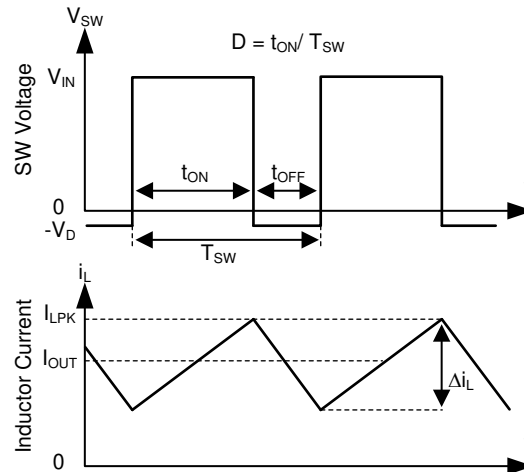

Figure 10-1. SW Node and Inductor Current Waveforms in Continuous Conduction Mode (CCM)
The following operating description of the TPS2584x-Q1 refers to the *Functional Block Diagram* and the waveforms in Figure 10-1. TPS2584x-Q1 is a step-down synchronous buck regulator with integrated high-side (HS) and low-side (LS) switches (synchronous rectifier). The TPS2584x-Q1 supplies a regulated output voltage by turning on the HS and LS NMOS switches with controlled duty cycle. During high-side switch ON time, the SW pin voltage swings up to approximately V_{IN} , and the inductor current i_L increase with linear slope $(V_{IN} - V_{OUT}) / L$. When the HS switch is turned off by the control logic, the LS switch is turned on after an anti-shoot-through dead time. Inductor current discharges through the LS switch with a slope of $-V_{OUT} / L$. The control parameter of a buck converter is defined as Duty Cycle $D = t_{ON} / T_{SW}$, where t_{ON} is the high-side switch ON time and T_{SW} is the switching period. The regulator control loop maintains a constant output voltage by adjusting the duty cycle D . In an ideal buck converter, where losses are ignored, D is proportional to the output voltage and inversely proportional to the input voltage: $D = V_{OUT} / V_{IN}$.